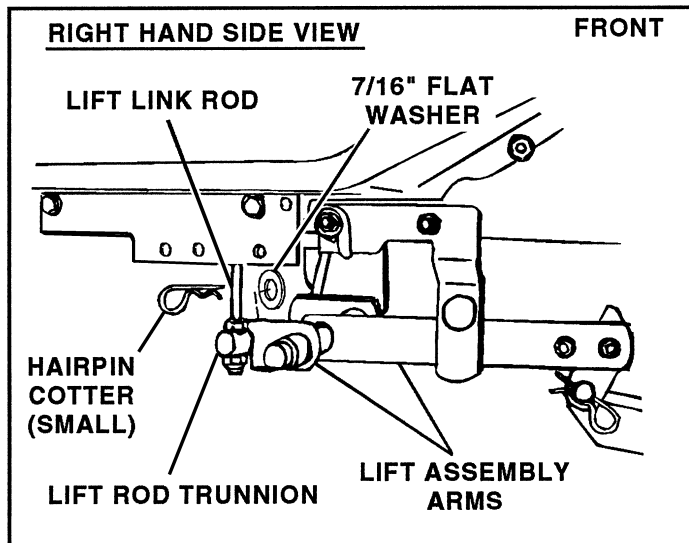

FIGURE 20
20. Assemble trunnions that were assembled to the lift link rods in step 12, through lift assembly arms and secure with 7/16" flat washers and (small) hairpin cotters. **Note: Trunnions must be positioned to outside of lift assembly arms.** See figure 20.
21. Assemble lift pivot plate over right hand end of lift assembly pivot shaft and connect to inside of frame bracket using two 3/8" x 3/4" clevis pins from inside. Secure with two 3/32" (small) hairpin cotters. Secure ends of pivot shaft to each lift pivot plate with 1/8" (large) hairpin cotter. See figures 20 and 21.